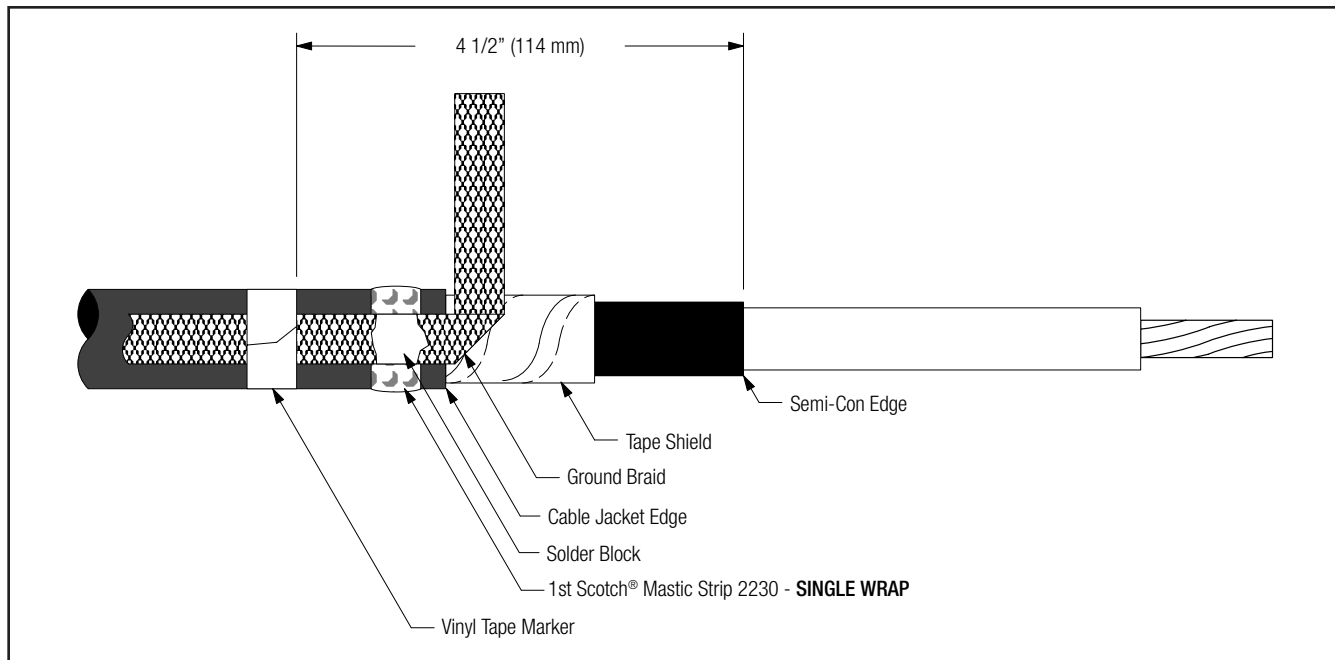

Figure 3
- 3.2 Position pre-formed ground braid with short tail over tape shield directly adjacent to cable jacket cut edge. PLEASE NOTE: The ground braid needs to make full contact with the metallic tape shield. Position long tail of ground braid, extending over cable jacket with solder block over mastic strip (Figure 3). Secure ground braid to cable jacket 4 1/2" (114 mm) from cable semi-con edge using vinyl tape (see NOTE and Figure 3).